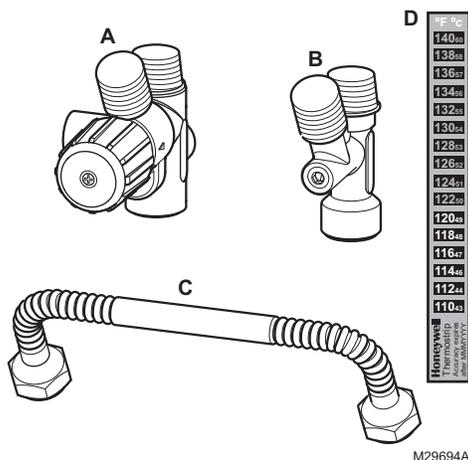

Fig. 1. Mixing valve kit contents.
#### Included in this box (see Fig. 1)
8. Remove all components from the AMX300 mixing valve kit box and check that all required components are included. The required components are: AMX300 mixing valve, cold water tee, flexible metal connector, thermostrip and installation instructions (see Fig. 1).